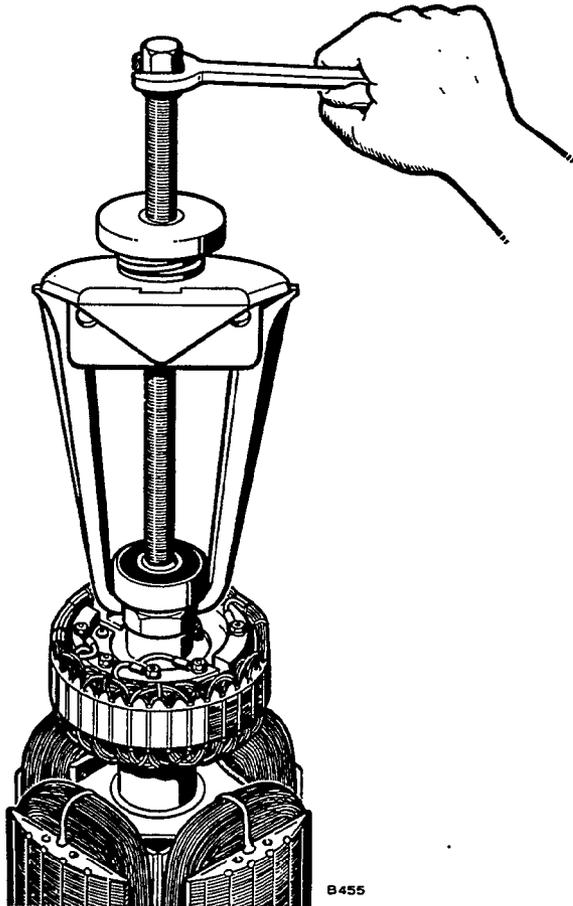

FIGURE 65. ROTOR BEARING REMOVAL
12. If required, remove bearing with a gear puller and accessory crutch (if available) from rotor through stud, Figure 65.